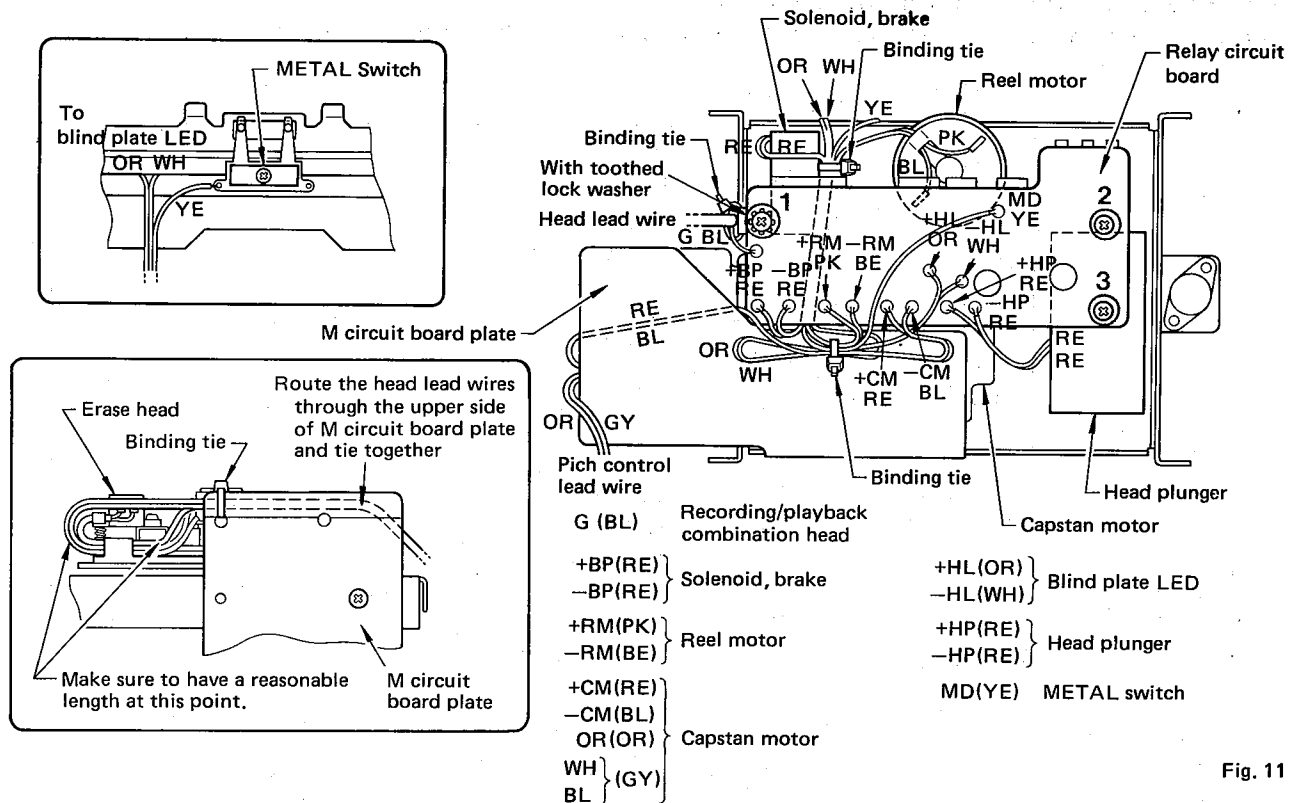

Fig. 11
- Remove screws ① through ③ in fig. 11 and then remove the relay circuit board.